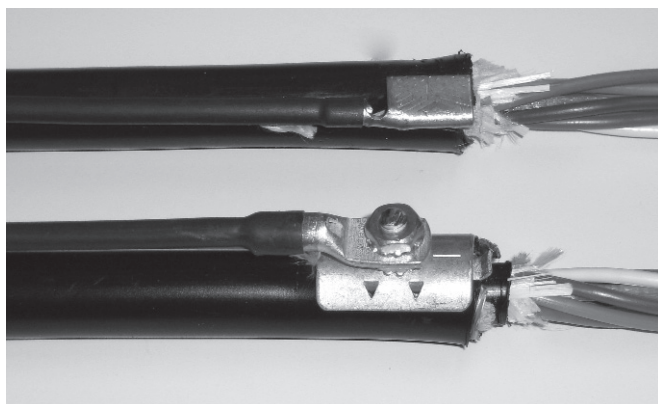

Figure 2
1. Tab the cable or pull the ripcord 1" past the ring cut to create an opening in the cable for the ground wire or bond clamp. If you are not using a bond clamp, crimp the supplied ground wire onto the sheath and shield. If using a bond clamp, attach the ground wire to the bond clamp. (Figure 2) For central core tube cable, tab between the strength members. Consider the cable's eventual placement in the closure, and place the ground wire where it will not interfere.